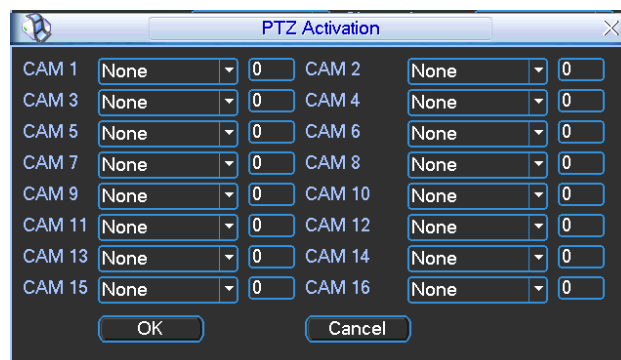

Figure 4-22
- PTZ activation: Here you can set PTZ movement when alarm occurs. Such as go to preset, tour & pattern when there is an alarm. Click “select” button, you can see an interface is shown as in Figure 4-22.